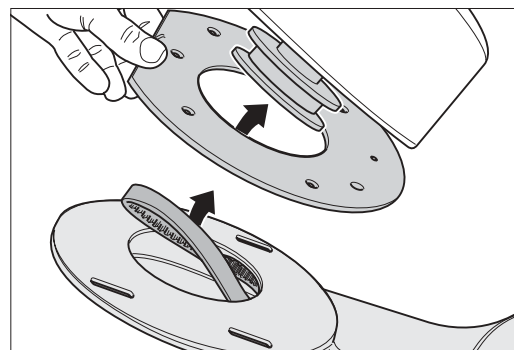

Fig. 70: During the assembly of the fan housing, pay attention to the correct position of the intermediate sheet-metal plate!
- 12 During the assembly of the attachment, pay attention to the correct position of the intermediate sheet-metal plate between the fan housing and the attachment (Fig. 70)!